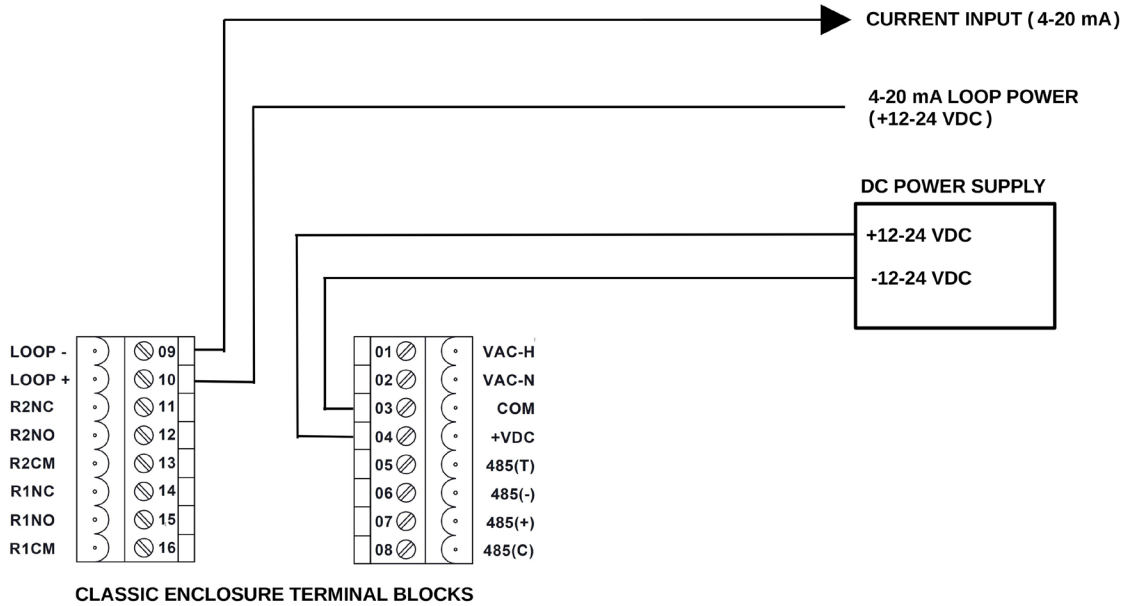

Figure 19 - DC Powered CLASSIC, 4-Wire External Loop Power - Current Sinking
- The CLASSIC 800 features a fully isolated 4-20 mA Analog Output, which can be wired in a 3-Wire or 4-Wire configuration as shown in Figures 19, 20, and 21.